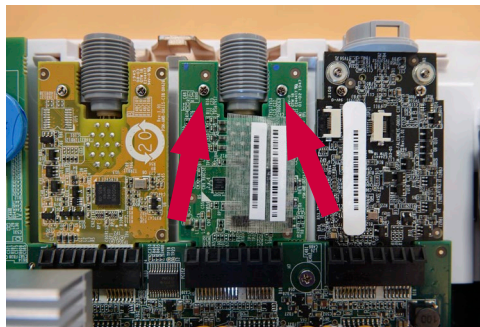

Figure 21 Remove the screws on the VDI board to be replaced
- a) Use the screwdriver to loosen the two screws holding the VDI board (Figure 21)
- e) **Insert and tighten the two screws (max. torque 0.2 Nm) holding the VDI board in place (Figure 21)**